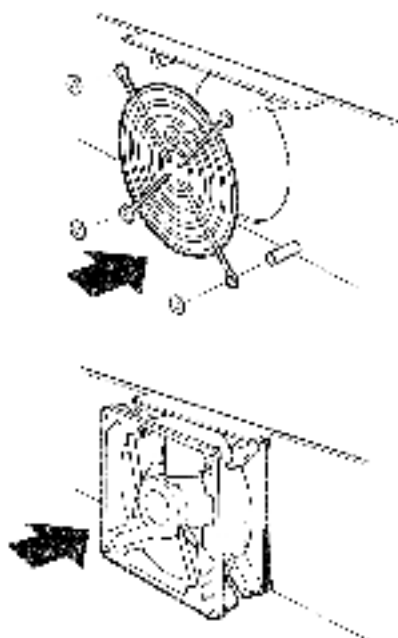

Figure 8-26 Rear Fan Installation
1. Reinsert the four screws and place the fan guard on the screws. Make sure the cross members of the fan guard face the inside of the unit (Figure 8-26).
2. Place the spacers on the screws and secure the fan. Make sure the fan is oriented as shown in Figure 8-26. The airflow must be away from the power supply.